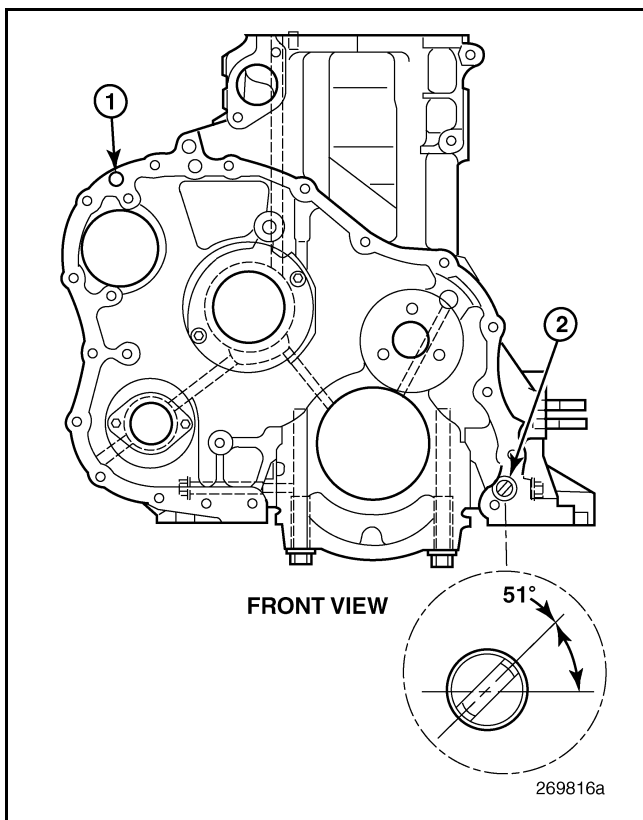
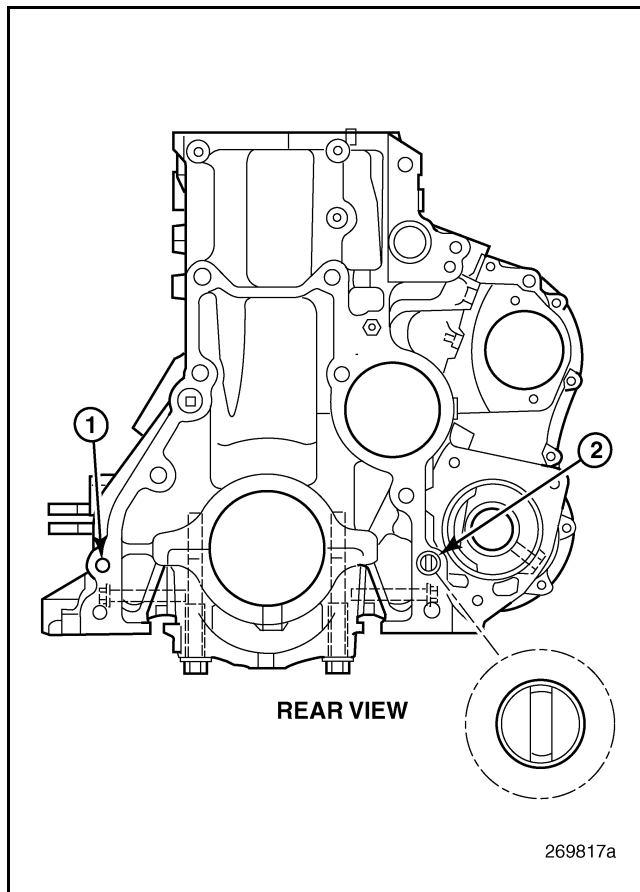

Figure 217 — Pin Angle Alignment (Front)
Figure 218 — Pin Angle Alignment (Rear)
- Position the exposed end of the dowel into the appropriate dowel pin hole in the cylinder block (see Figure 217 or Figure 218 for location).
Refer to either Figure 217 or Figure 218.